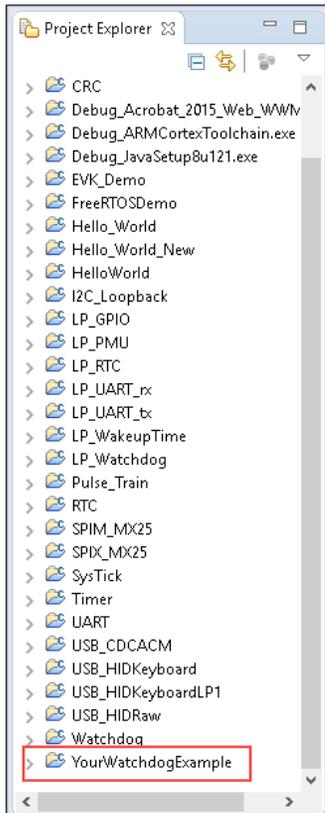

Figure 19. Project Explorer tab showing your project.
15. Click **Finish**. The YourWatchdogExample project now appears on the **Project Explorer** tab, as shown in **Figure 19**.